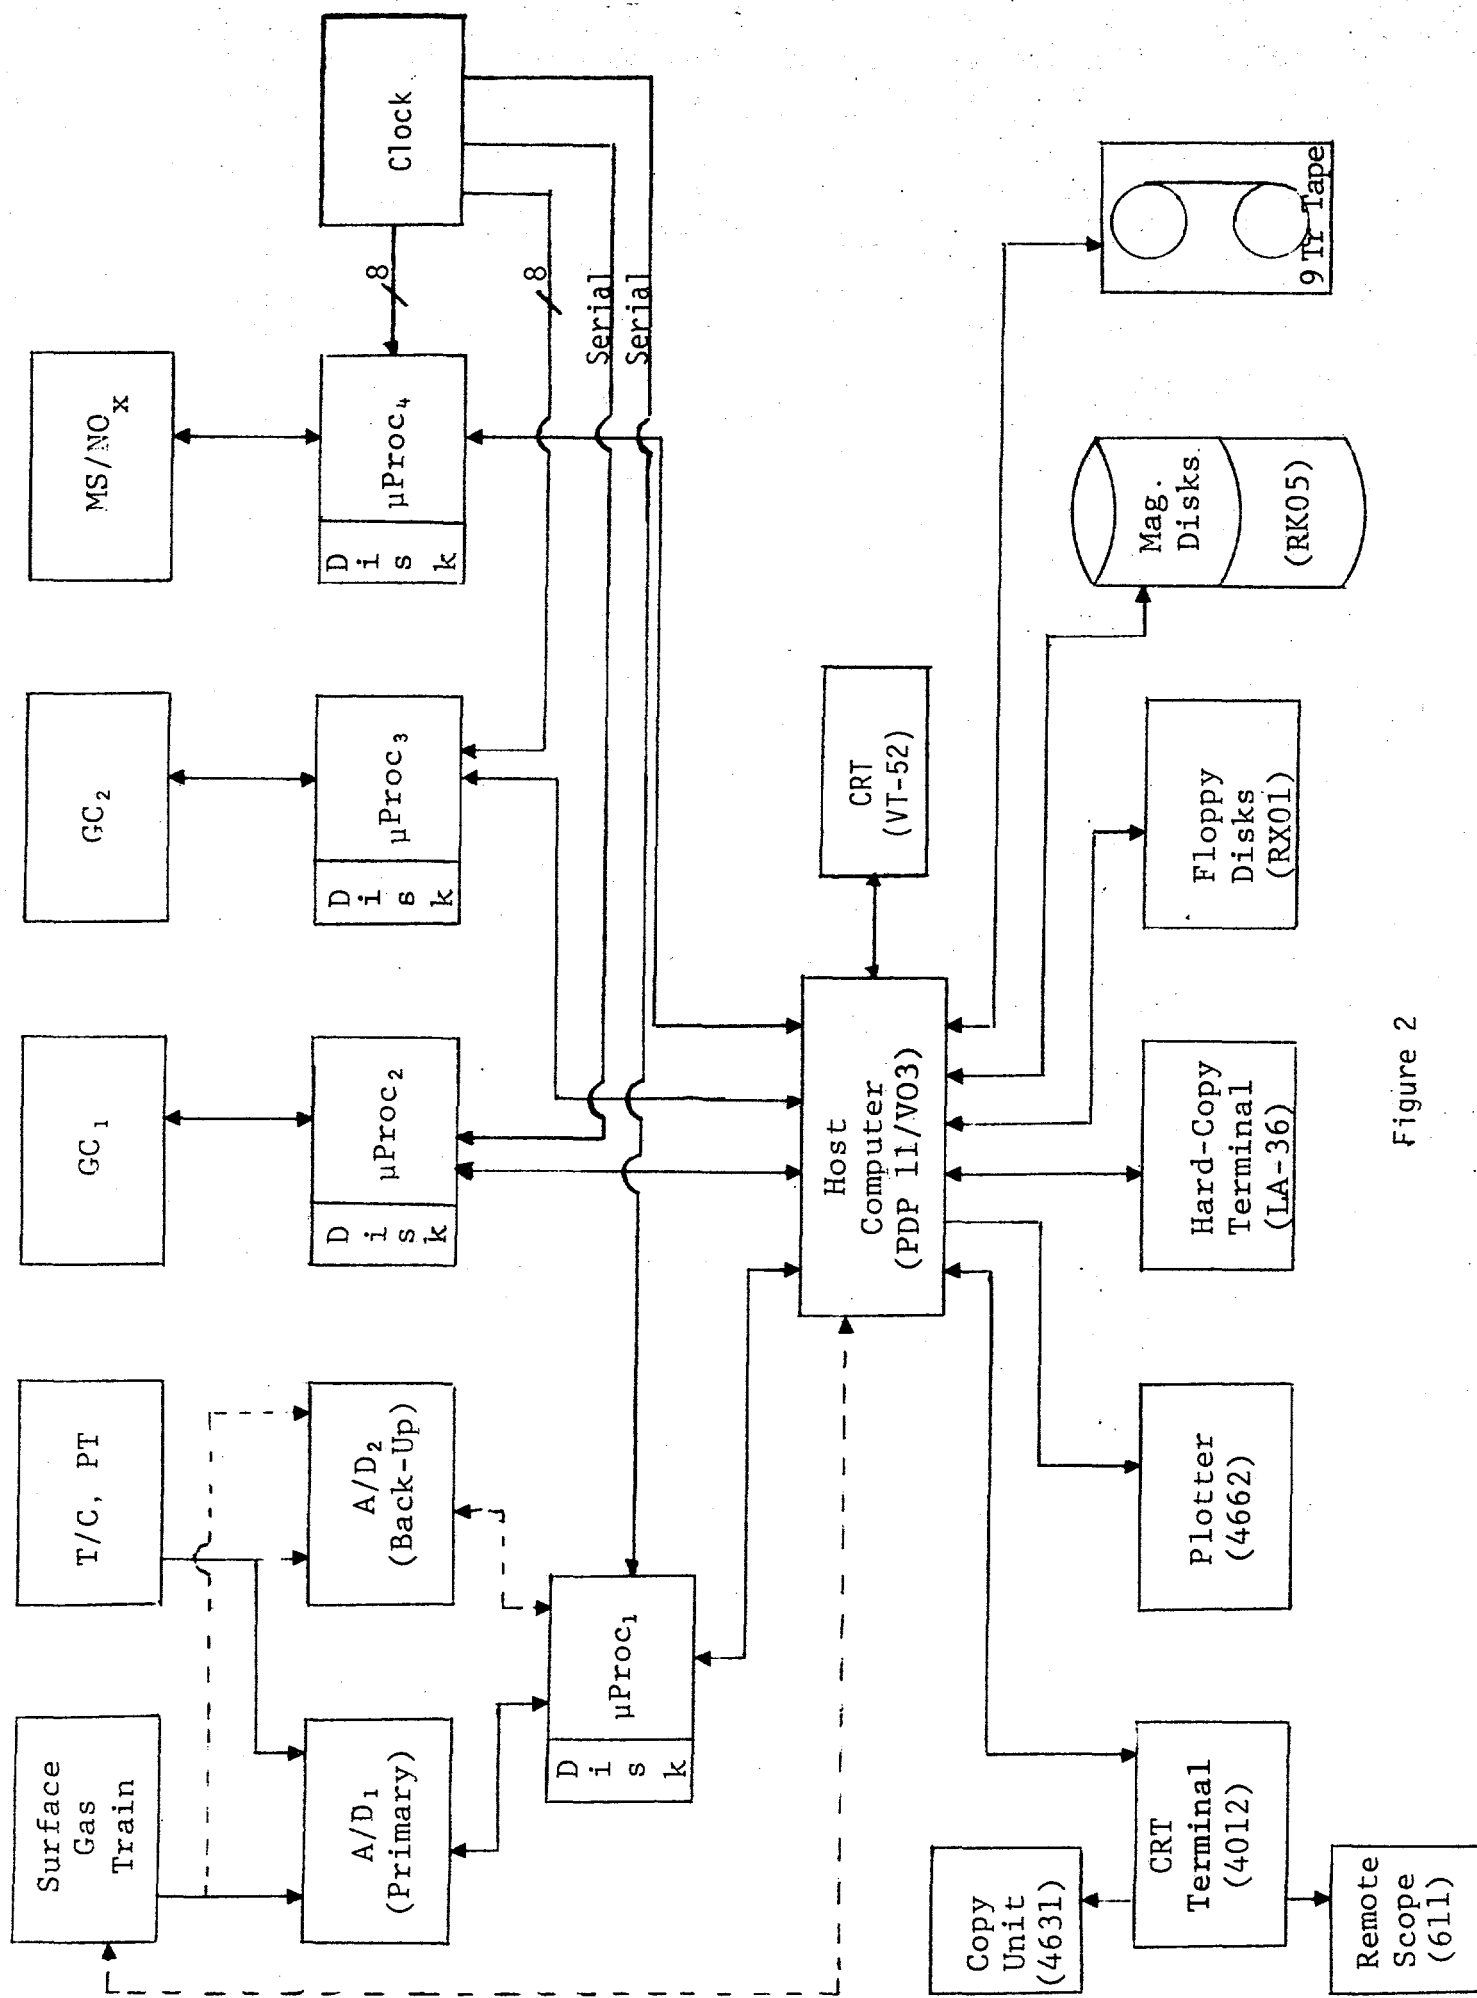
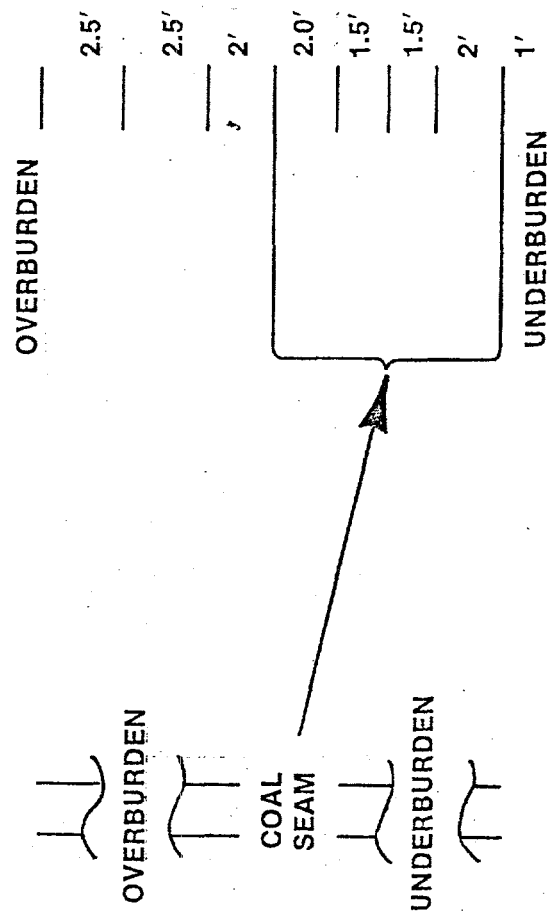

Figure 2
Figure 3
A real-time automated data acquisition system should include features such as dependability, ease of maintenance, rapid problem isolation and backup capability. A schematic diagram of the Pricetown I system indicating such features as well as the overall layout is shown in Figure 2.
(LSI-11) which acts as a data collector-concentrator. As indicated in Figure 2 each satellite microprocessor is assigned a specific acquisition and/or control function. For example, microprocessor 4 provides signals to the gas chromatograph satellites when its detection algorithm detects unusual data occurrences. All satellites record data on diskettes as the data are collected. The diskette is managed as a first-in, first-out (FIFO) buffer so as to always have as many current data items as possible on the diskette. Consequently the oldest data items are overlaid by the most current data items.
2. Temperature Data. As indicated in Figure 2 the temperature signals are routed to a Digitrend Data Logger, processed through microprocessor 1, and then transmitted to the host computer. Data will be collected from each of 40 thermocouples, 10 per test well, and a total of six readings per thermocouple will be acquired, four temperature readings and two diagnostic readings. The relative positions of these thermocouples in the coal seam, the overburden, the underburden, and the two interfaces between the coal and over-and underburden are shown in Figure 3.
The integration of microprocessor 4 which controls and collects data from the mass spectrometer system, and interacts with the microprocessors that control and collect data from the gas chromatograph system is depicted in Figure 2.